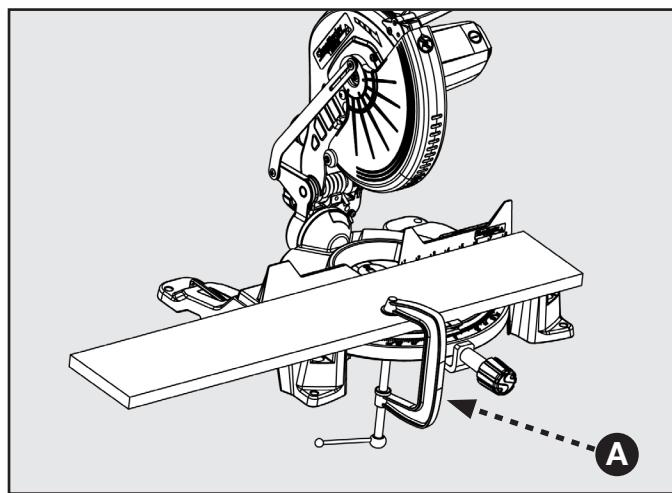

FIGURE 21
When cutting wide work pieces, such as 2 in. x 6 in., clamp the workpiece to the work table using a C-clamp (A) as shown in Figure 21.